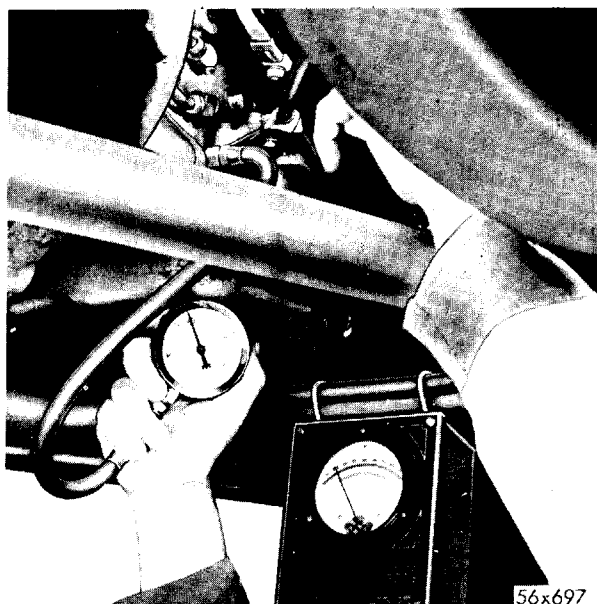

Fig. 17—Checking Line Pressure
(1) Remove the pipe plug from the line pressure take-off hole located on the left side of the transmission case (Fig. 1). Install gauge, Tool C-2393 (300 psi) at this point (Fig. 17).